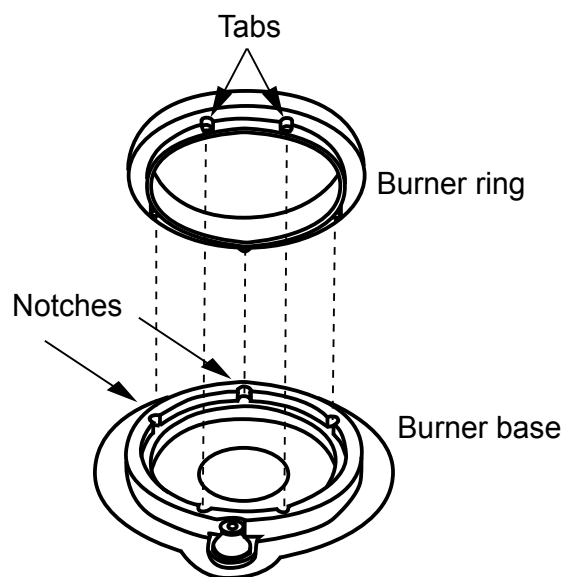
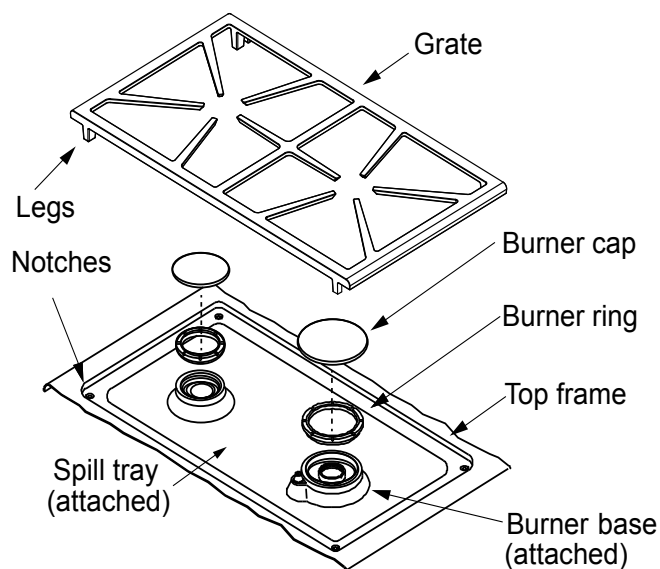

Figure 2: Aligning Tabs and Notches
Figure 1: Burner and Grate Assembly
1. Put the burner ring on the burner base as shown in Figure 1 and Figure 2. Be sure to match the correct size.
2. As you put each ring in place, line up the tabs on the burner ring with the notches on the burner base (see Figure 2). Twist the burner ring back and forth slightly to make sure it is properly seated.
4. Gently set the grates over the burners. Put the legs of each grate into the corresponding notches on the spill tray. The notches will hold the grate in place (see Figure 1).